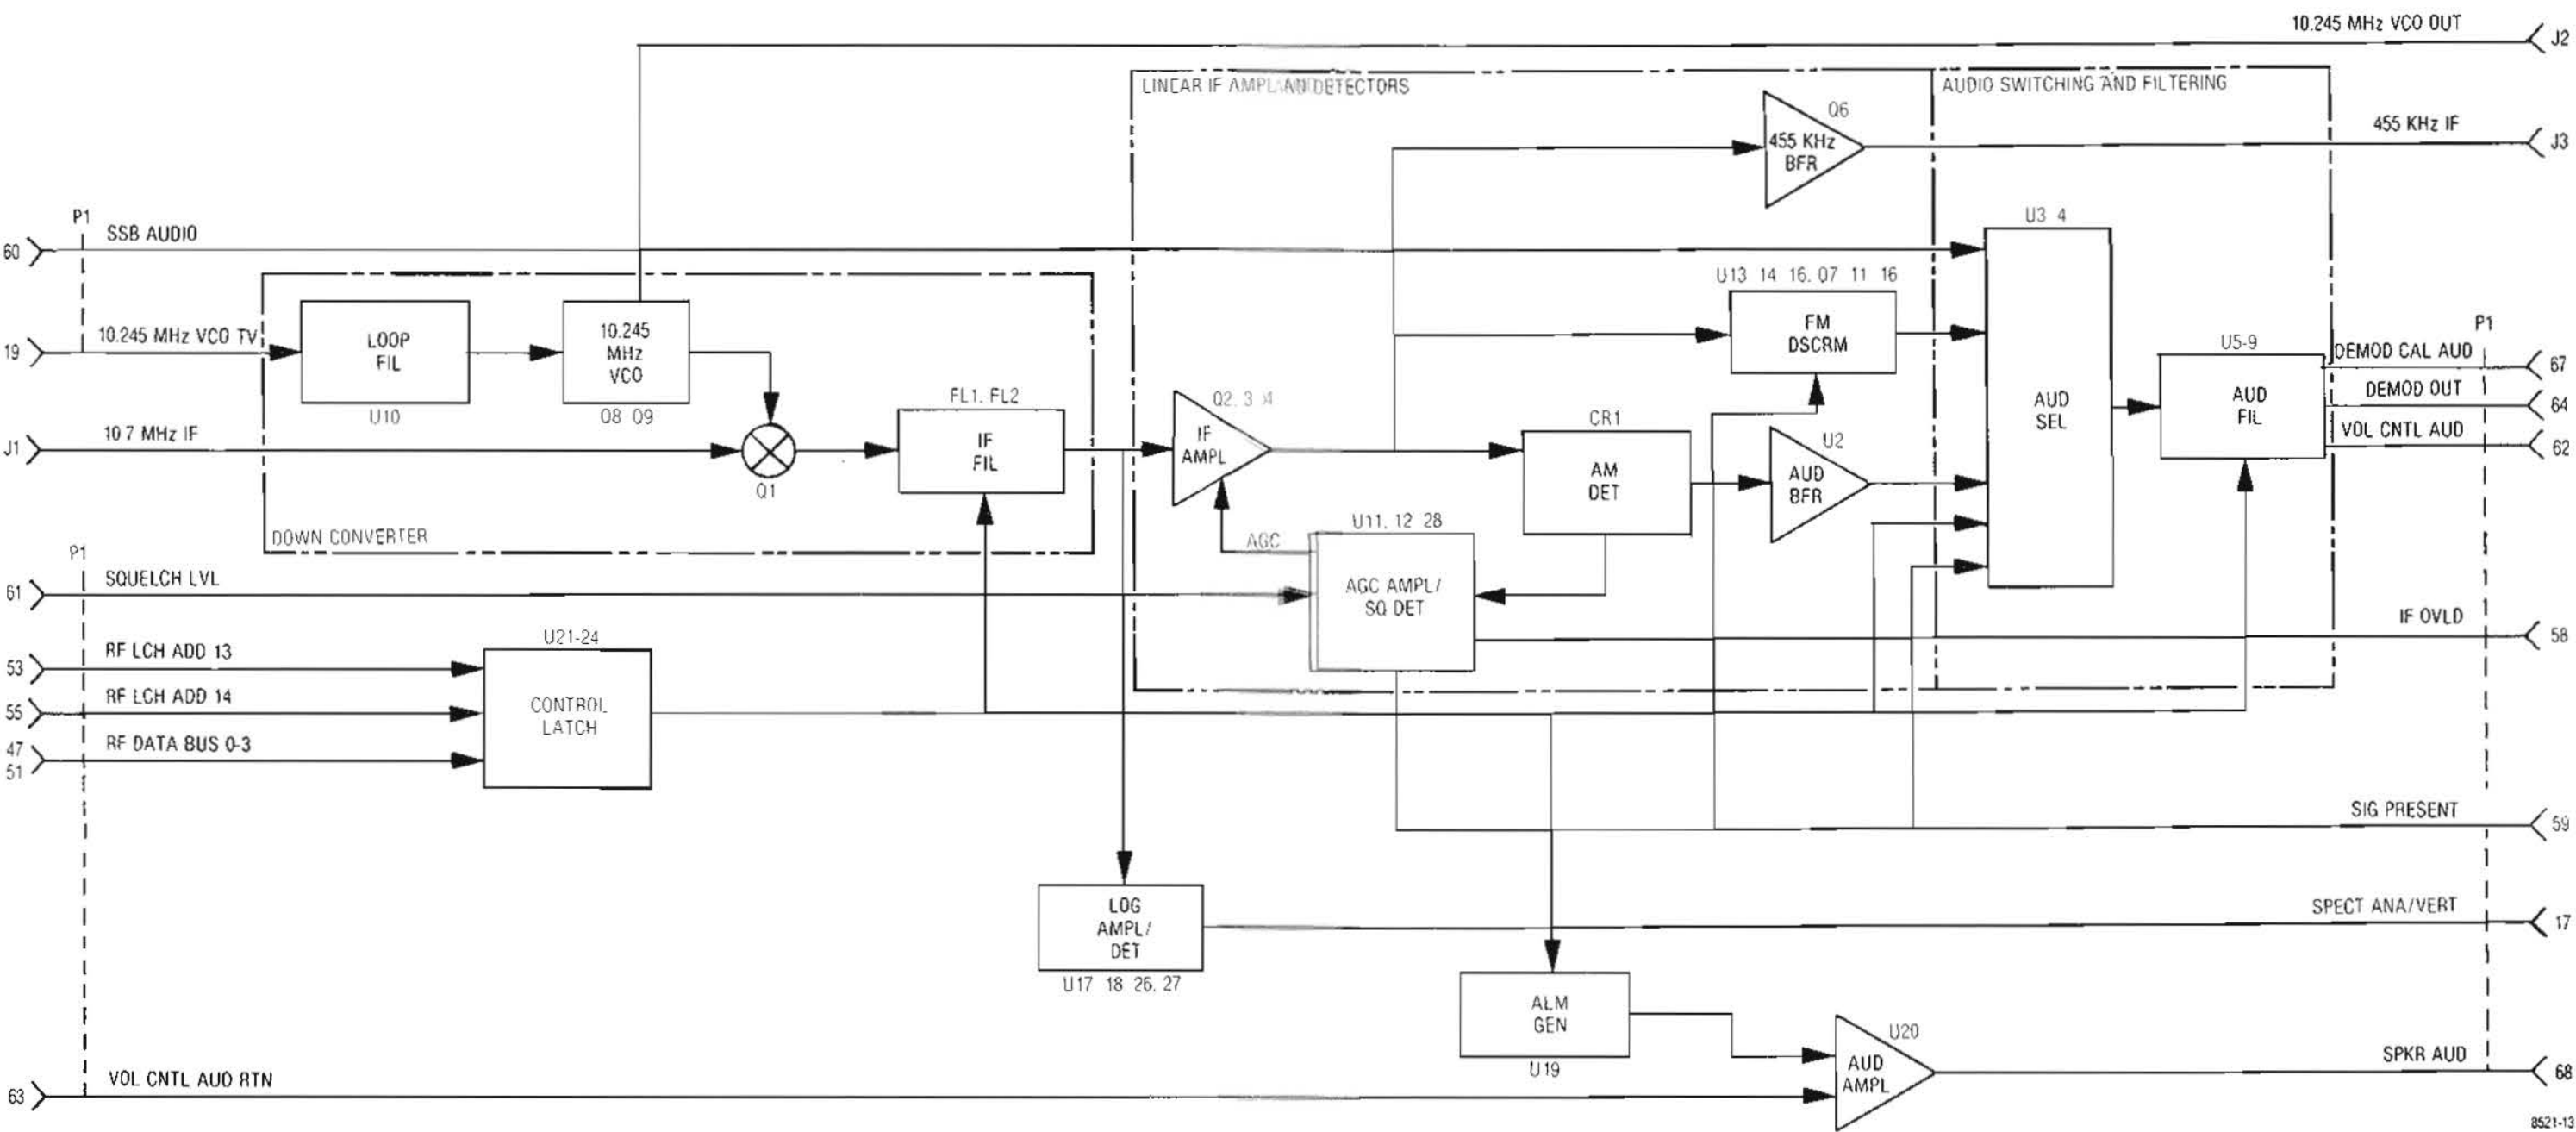
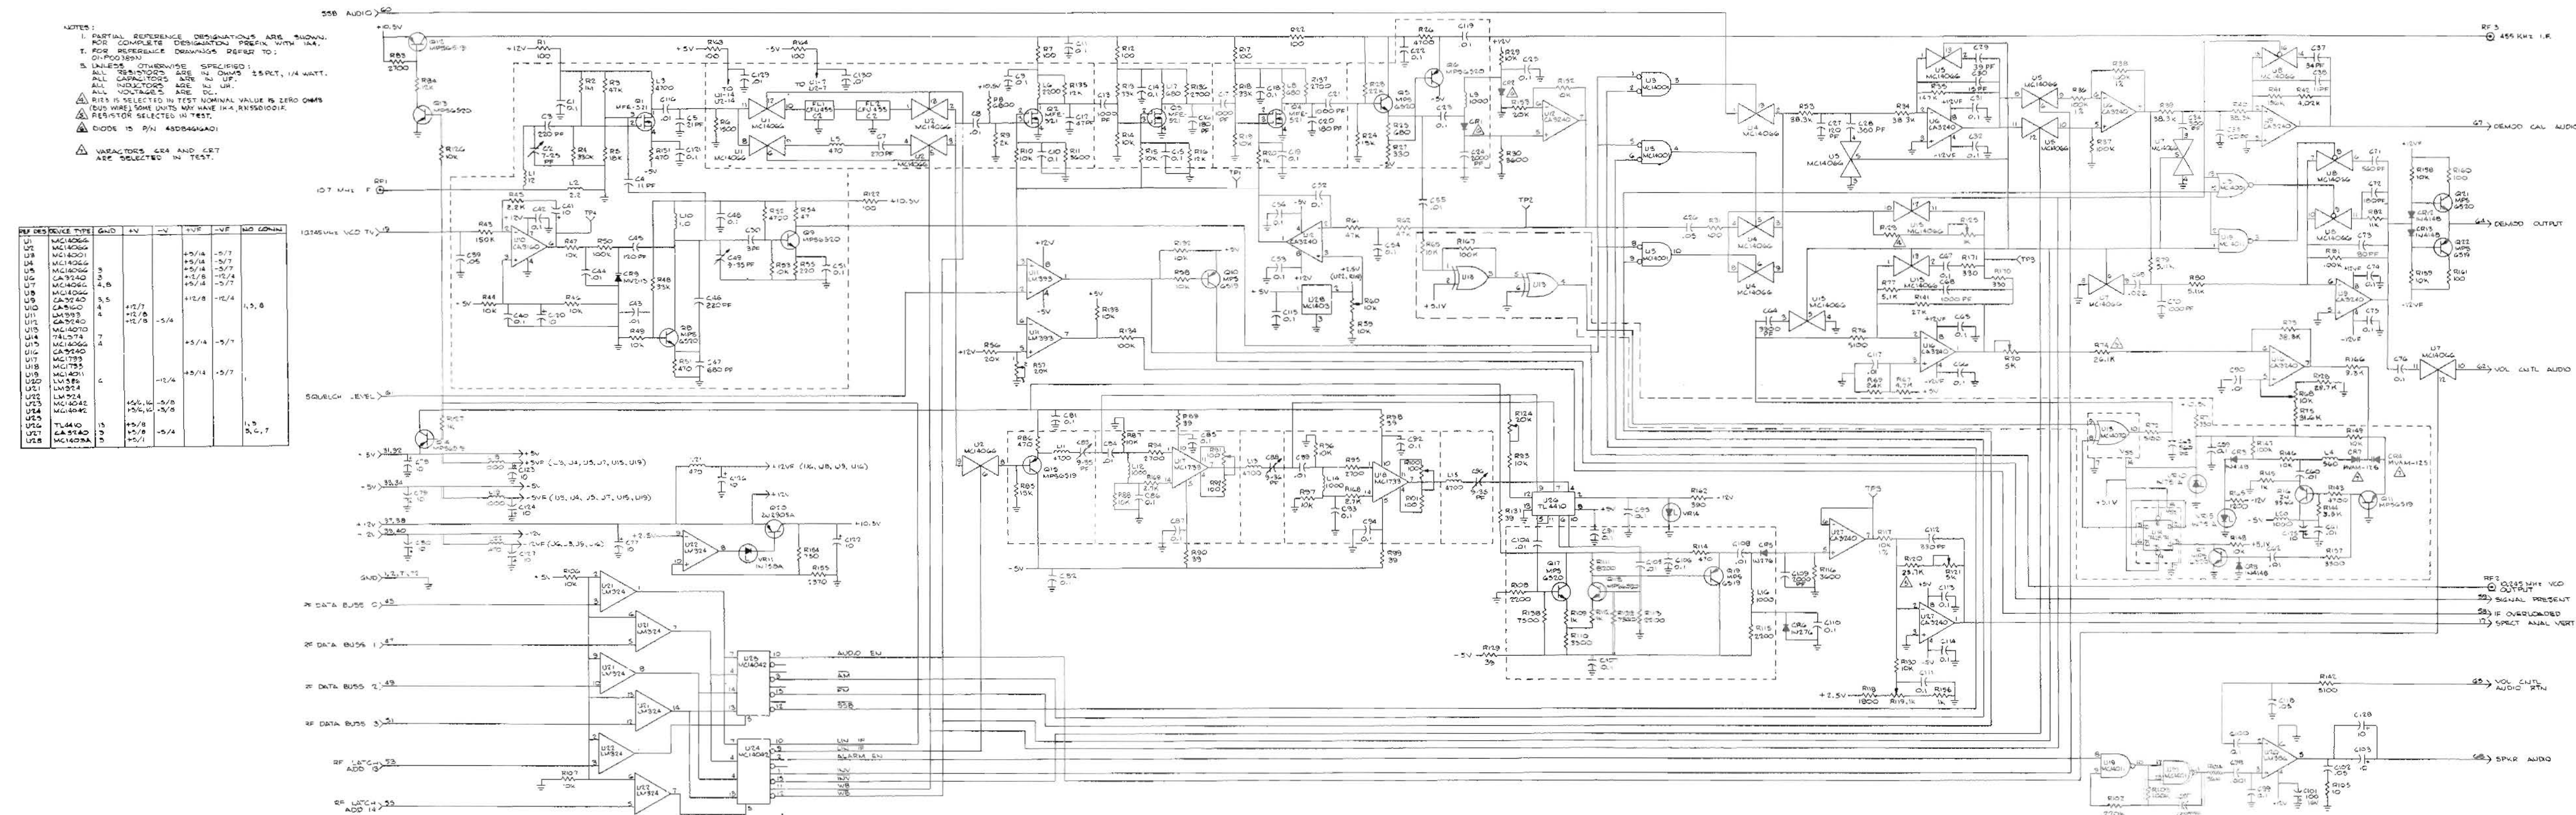

Figure 10-1. Receiver A4 Block Diagram
Figure 10-2. Receiver A4 Schematic Diagram
**10-1. General.** The Receiver down converts the 10.7 MHz first IF signal to 455 kHz. Following the down conversion a linear or a logarithmic IF amplifier provide the gain prior to AM and FM detectors or the spectrum analyzer detector respectively. Post detection filtering provides the wide or narrow band responses for the audio outputs. The audio amplifier for the speaker and the alarm generator are also contained on this module. A block diagram of the Receiver is shown in figure 10-1 and its schematic in figure 10-2.